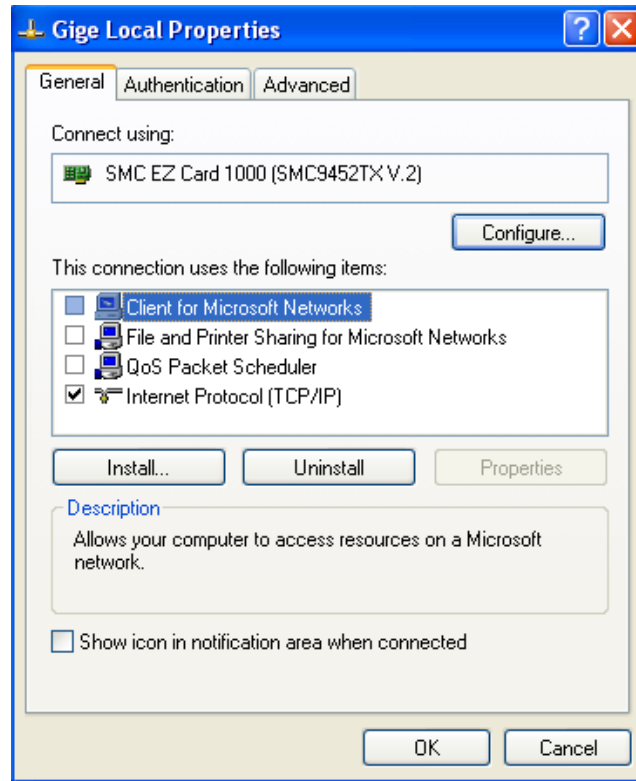

Figure 9. Network card main properties window.
- Open the Network Connections Dialog as follows: From the Windows desktop select *start*, then select *Control Panel*, then double click on the *Network Connections* icon. Double click the relevant network card listed or right-click the relevant network card and select *Properties*. This will open the properties window for your network card. See Figure 9.
- From the main properties dialog as in Figure 9, make sure that only the **Internet Protocol (TCP/IP)** check box is selected then click **OK**. The card is now optimized for use with the Prosilica camera.